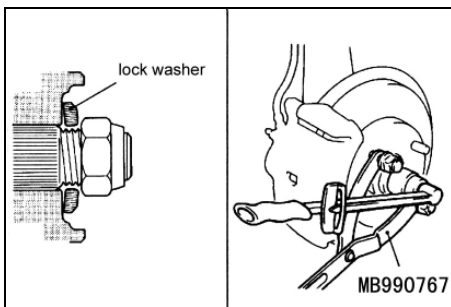

Fig.12-9
(2) Drive shaft nut and washer installation(see Fig.12-9)